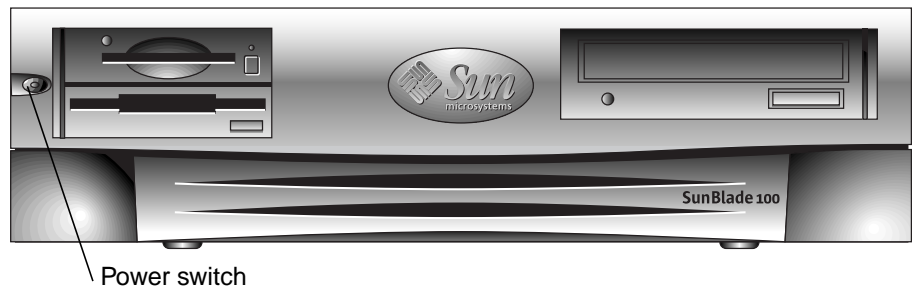

FIGURE 5-1 Front Panel Power Switch
- a. **Momentarily press and release the front panel power switch (FIGURE 5-1) to automatically shut down all programs, the operating system, and power off the system.**
- b. **Press and hold the front panel power switch (FIGURE 5-1) for four seconds to power off the system.**